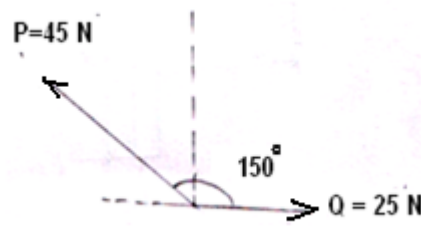

Fig. 2
Q.2	(a) State: 1) Varignon's theorem 2) Lami's theorem (b) Two forces, P and Q are acting on a bolt as shown in fig. 2 . Find the Resultant force in the terms of magnitude and direction, if the angle between two forces is 150° .